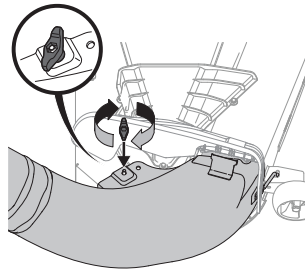

Figure 23
5. Secure the bagger chute to the cutting deck using a wing knob from cart collection support assembly 689-02019. Refer to Figure 23.